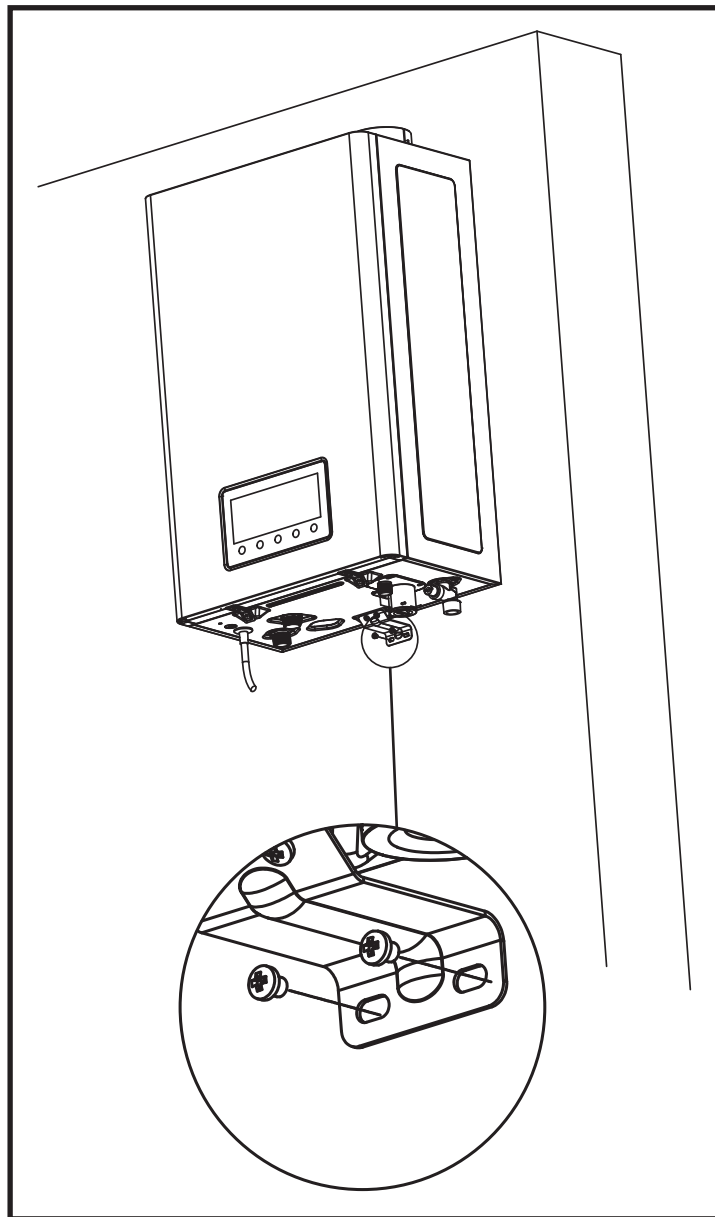

Fig. 6.5
4. Secure the lower bracket, installed on the water heater in a previous step, to the wall with screws. **(See Fig. 6.5)**